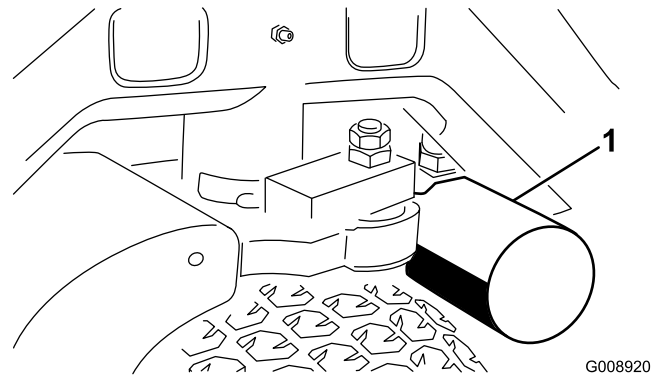
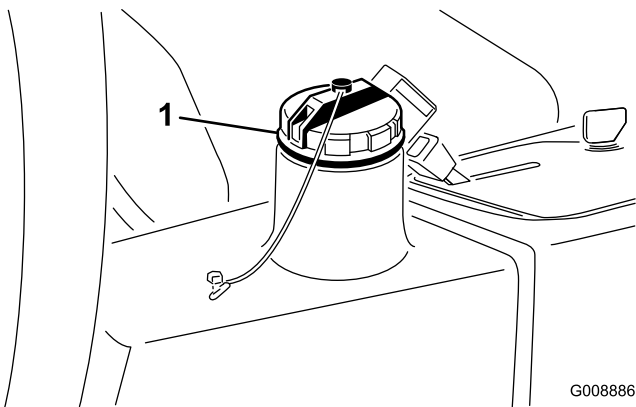

Figure 55
**Figure 56**
3. Clean around the filter mounting area. Place a drain pan under the filter (Figure 55) and remove the filter.
2. Disconnect the hydraulic line (Figure 56) or remove the hydraulic filter (Figure 55) and let the hydraulic fluid flow into a drain pan. Install the hydraulic line when hydraulic fluid stops draining.